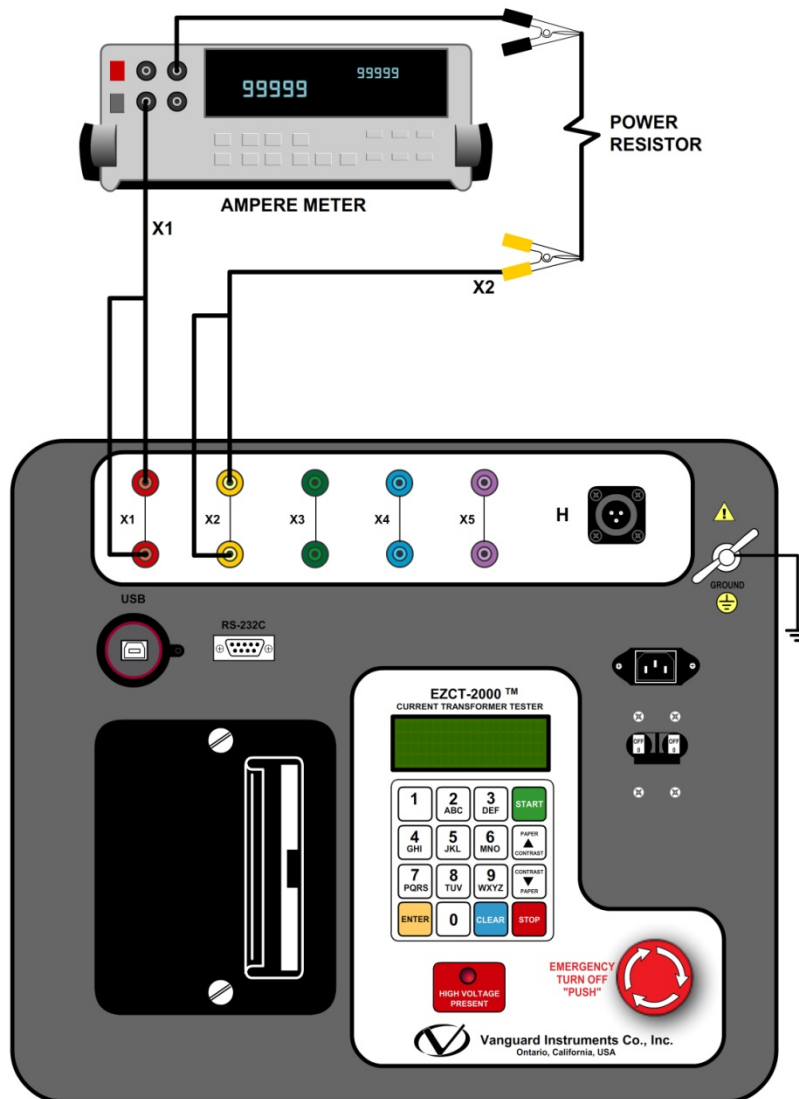

Figure 16. EZCT-2000  $I_x$  Verification Test Connections
- Connect the X cables to a power resistor and an RMS ampere meter as shown in Figure 16.